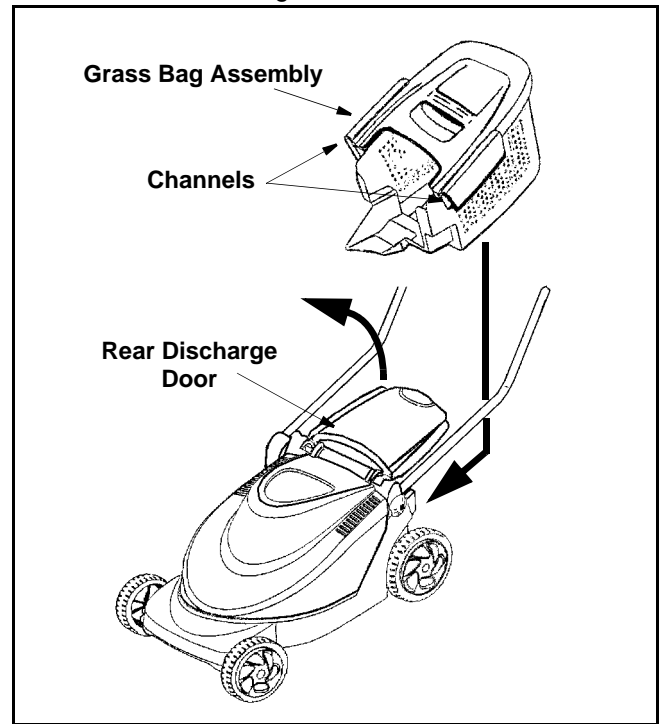

Figure 8
- Lift the rear discharge door on the back of the mower. Refer to Figure 8.
- Place the channels of the grass bag assembly over the lower portion of the lower handle as shown in Figure 8.